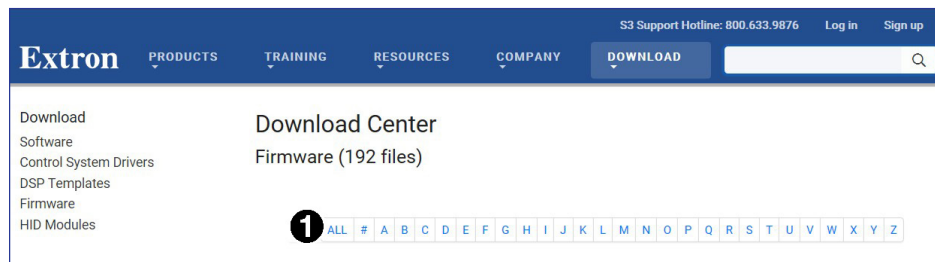

Figure 54. Firmware Page with the Alphabetic Navigation Bar
2. Click the **Firmware** link (②) from the drop-down list. The **Firmware** page opens (see figure 54).